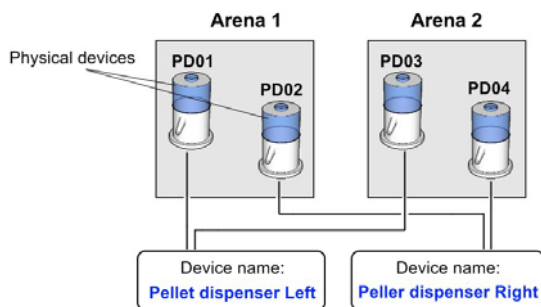

Figure 27 An example of mapping hardware devices in multiple arenas.
- **Physical device.** A single device identified by a ID number or code. Each physical device must be associated with a specific arena in your hardware configuration (see Figure 27). For example, PDO3 for a Pellet dispenser.
Furthermore, an arena may contain more than one physical devices of the same type. In this case you must define unique **Device names** in the Arena-Hardware Mapping window that can be associated with the physical devices. For example, if each cage has two pellet dispensers, you must define two **Device names**, for instance *Pellet dispenser Left* and *Pellet dispenser Right* (Figure 27). See **ASSIGN DEVICES TO ARENAS** on page 115.